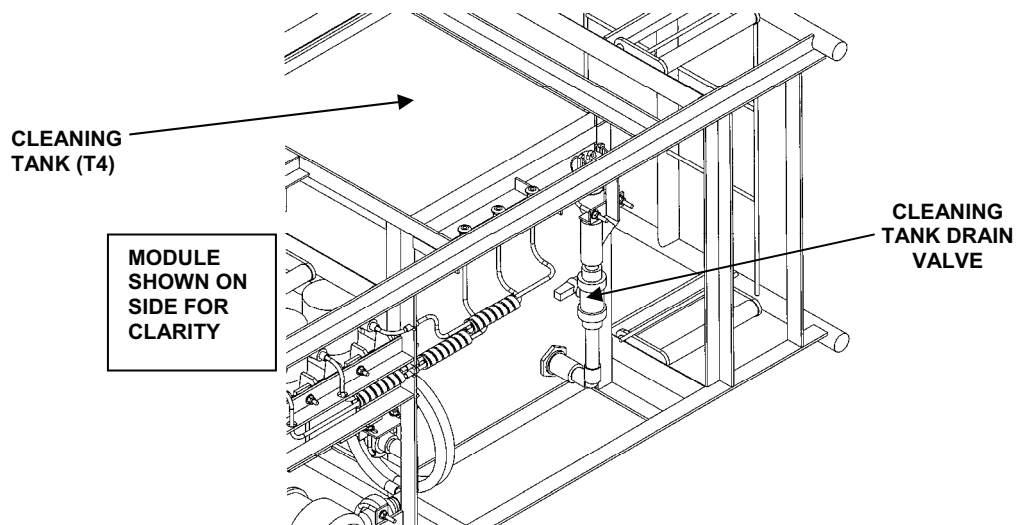

Figure 7. Cleaning Tank Drain Valve.
27. Reconnect the backwash pump discharge hose to UF module feed inlet. Ensure to close the cleaning tank drain valve. See Figure 7.